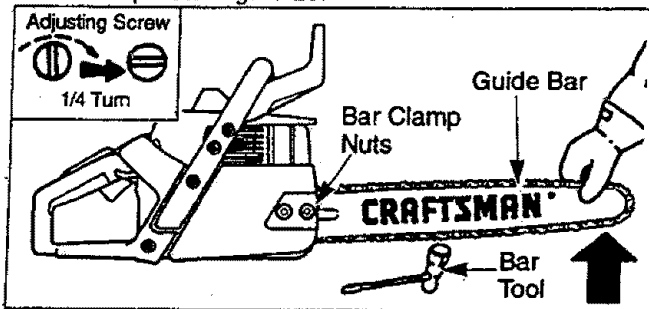

Figure 20
- If chain is too loose, refer to "Chain Adjustment." Loosen bar clamp nuts; then, turn adjusting screw 1/4 turn clockwise. Lift up tip of guide bar to check for sag. Retighten bar clamp nuts. Figure 20.